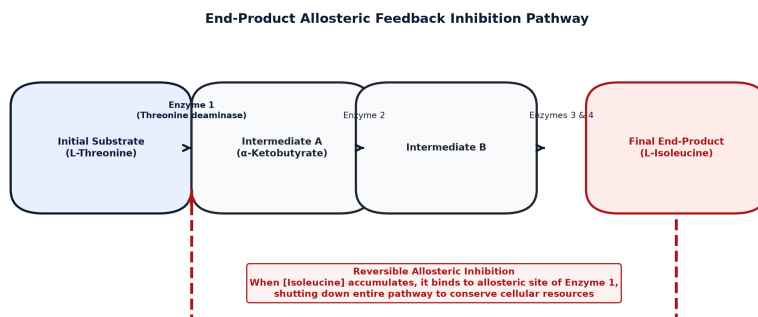

Fig. 3.14: Feedback inhibition of threonine deaminase by the end-product L-isoleucine.
Multi-step biochemical pathways are regulated to maintain cellular homeostasis without wasting chemical energy. Fig. 3.14 illustrates end-product inhibition in the synthesis of L-isoleucine from L-threonine.
- (a) With reference to Fig. 3.14, describe how accumulation of L-isoleucine down-regulates its own synthesis. [2]